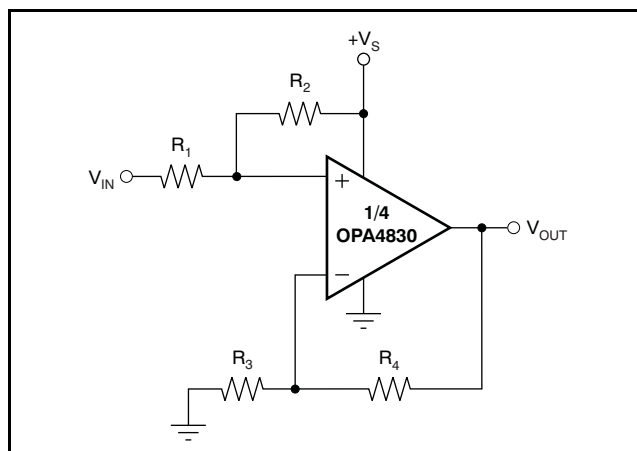

Figure 75. DC Level-Shifting
Figure 75 shows a DC-coupled noninverting amplifier that level-shifts the input up to accommodate the desired output voltage range. Given the desired signal gain (G), and the amount V_{OUT} needs to be shifted up (ΔV_{OUT}) when V_{IN} is at the center of its range, Equation 1 and Equation 2 give the resistor values that produce the desired performance. Assume that R_4 is between 200Ω and $1.5\text{k}\Omega$.